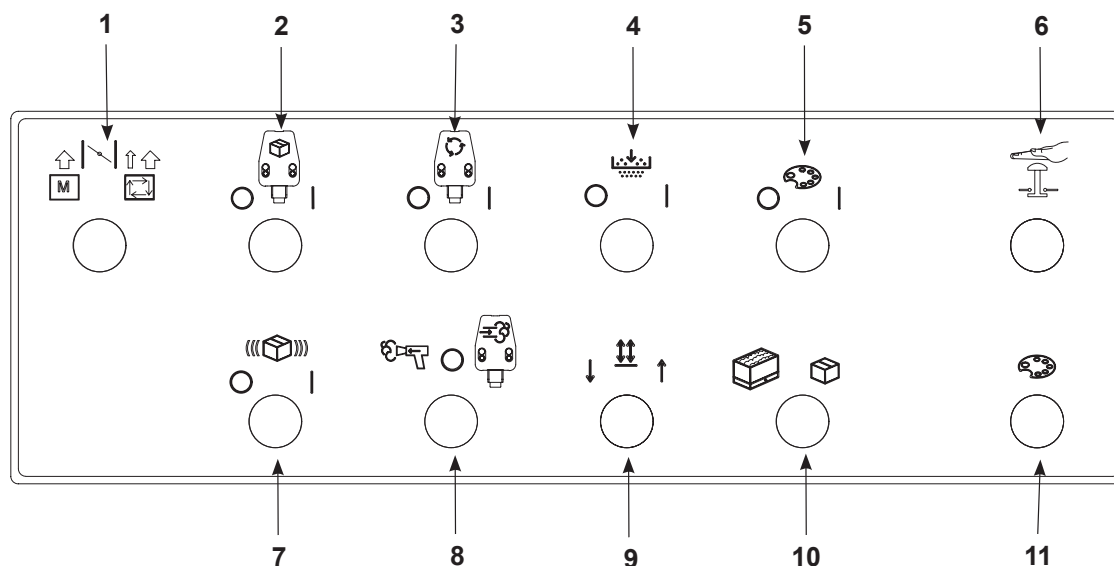

Figure 5-1 Feed Center Controls
Refer to Figure 5-1 for the feed center operator controls, and the Setup section for the PLC function settings.
See Figure 5-1. Powder is supplied to the feed center by HDLV reclaim and virgin powder transfer pumps. The powder is screened before flowing into the feed hopper. The sieve is turned on and off with the Sieve Control switch (4).
See Figure 5-1. The operation of the Reclaim and Virgin powder transfer pumps are controlled by separate selector switches (2, 3). Turning the switches to ON (I) enables the transfer pumps.
See Figure 5-1. Turn the Purge Control selector switch (8) to the Pump Purge position while the pump is on. Purge air is applied to the pump as long as the switch is in the purge position.
See Figure 5-1. When the Powder Source selector switch (10) is set to Hopper, the lance is moved down into the hopper until the hopper proximity sensor on the lift cylinder is activated and stops the lance above the fluidizing plate. When the level of powder falls below the level sensor, a delay timer (field-adjustable) is started.
Refer to Figure 5-1 for the feed center operator controls. A color change sequence is started by turning the Color Change Enable selector to ON. The sequence is finished or aborted by turning the selector to OFF.